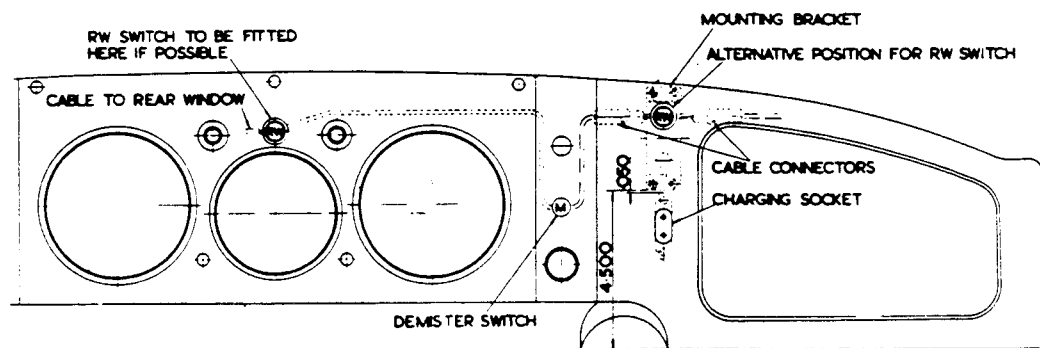

FIG. 1.
- (iii) Fit the RW switch to the centre vacant hole in the instrument panel or fit the bracket and switch to the right as shown in Fig. 1.